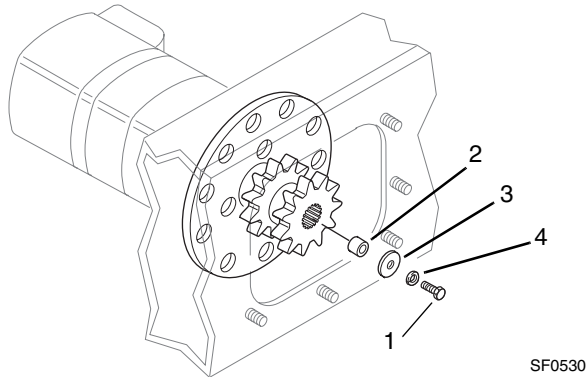

Figure 5-59 Drive Sprocket Installation
10. Apply Loctite threadlocker to the drive sprocket mounting screw (Fig. 5-59, 1), and secure the drive sprocket to the spline shaft using the spacer (2), washer (3), lockwasher (4) and screw (1). Tighten securely.